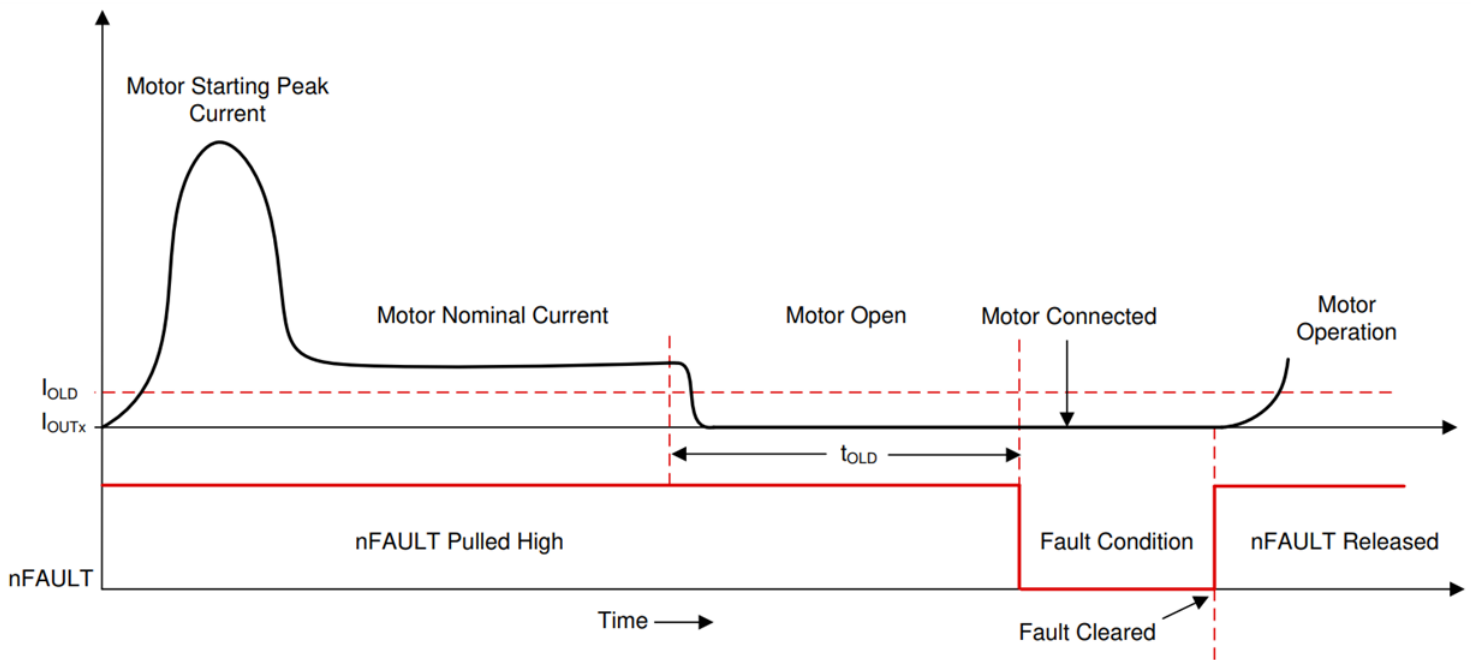

Figure 4. Active OLD operation
- Active OLD.** Active OLD ensures a driver-to-motor connection when the motor is driving. Figure 4 is an example where the OLD current threshold, I_{OLD} , must drop below the motor current, I_{OUTx} , for a duration larger than t_{OLD} to cause an OLD event. Fault clearing occurs when I_{OUTx} becomes greater than I_{OLD} . This OLD diagnostic gives you the ability to detect load disconnections while the load is driving and stops the system from continuing operation.